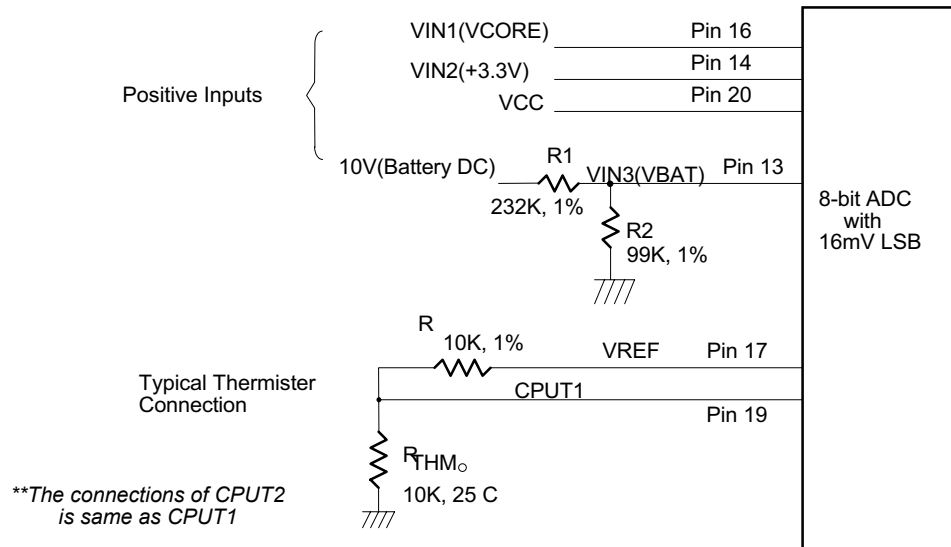

Figure. 10.
The maximum input voltage of the analog pin is 4.096V because the 8-bit ADC has a 16mV LSB. Really, the application of the PC monitoring would most often be connected to power suppliers. The CPU V-core voltage and +3.3V voltage can directly connected to these analog inputs. The 5VSB and battery inputs should be reduced a factor with external resistors so as to obtain the input range. As Figure 10 shows.
The W83L784AR can connect three thermistors to measure three different environment temperature. The specification of thermistor should be considered to (1)  $\beta$  value is 3435K, (2) resistor value is 10K ohms at 25°C. In the Figure 10, the thermistor is connected by a serial resistor with 10K Ohms, then connect to VREF (pin 17).